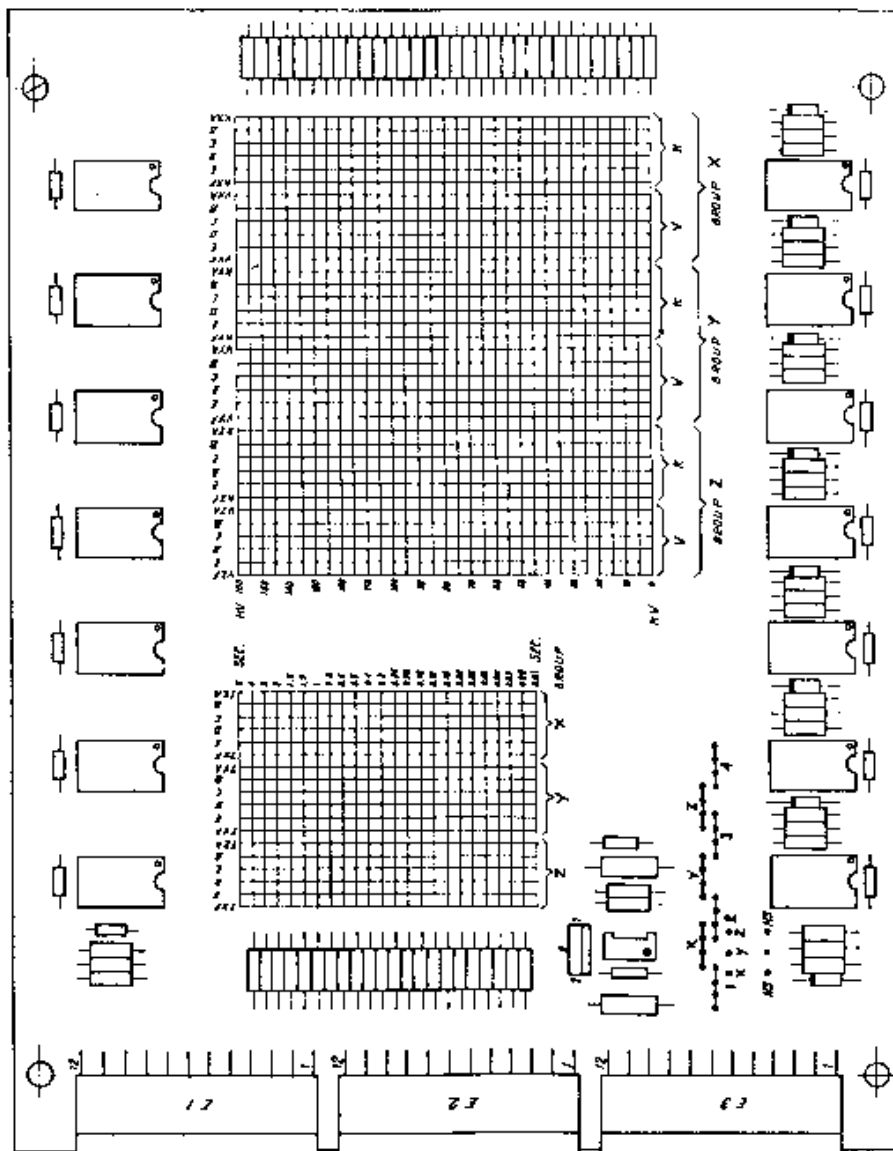

FIGURE 8 MAX LOAD PCB
**NOTE** On delivery, the kW/Time Overload pcb (see Fig. 8) is set up as detailed below:
- C The tube selector switch must be programmed for the tube combination deployed. This is achieved by re-arranging the links on the kW/Time Overload pcb. Fig. 8 shows links A arranged for an application where tubes 1 and 2 are type X, tube 3 is type Y and tube 4 is type Z, three types of tube being used. Link B is shown arranged such that only tubes 1 and 2 are operated at high speed.
- viii Mark the actual link positions on a copy of the matrix diagram for the overload board, e.g., if TXA link is at 0.01s, mark the point where the lines TXA and .01 intersect. If the KXA and VXA links are at 125 kV, mark the points where the KXA and 125, and the VXA and 125 lines meet. These are the points marked A on Fig. 8.
- v Mark the actual link position on the matrix diagram. The link positions are marked with a B on Fig. 8 assuming that the TXB link was at 0.01s and the KXB and VXB links were both at 125 kV.